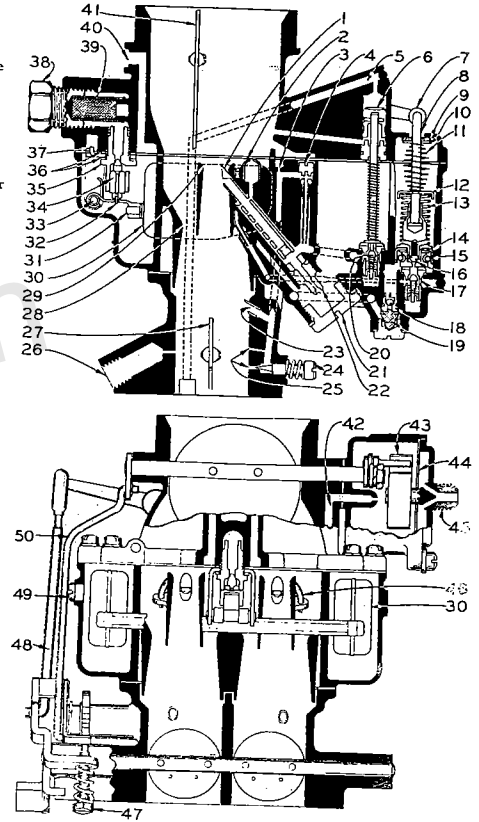

Fig. 12—Stromberg AAV-26 Carburetor Which Has a Vacuum Operated Power (Economizer) Jet
**Idle Mixture Adjustment**—Turn idle mixture adjusting needles "24", Fig. 12, out for richer idling mixture. Standard adjustment  $1\frac{1}{2}$  to  $1\frac{3}{4}$  turns open.
**Repair Notes**—Leaking economizer valve, Fig. 12 will cause excessive fuel consumption. A sure method of checking economizer is to close off with a plug the passage connecting the jet "20" with the main discharge jet. If the mileage per gallon at 30 m.p.h. constant speed is greater with the passage closed the economizer is leaking and should be renewed.